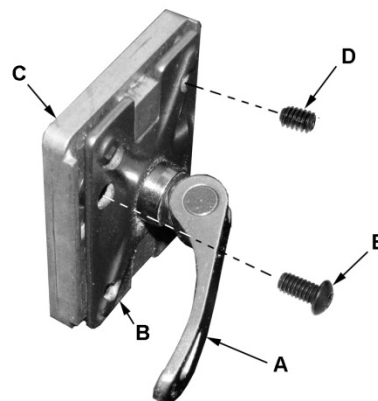

Figure 25
4. Use a 3mm hex key to make adjustments to four set screws (D, Figure 25) accessible through openings located in the corners of the clamp plate (B, Figure 25).
5. Adjust any number of setscrews required to bring riving knife in alignment with saw blade. Then reinsert riving knife, secure by tightening lever (A) and check the alignment per step 2.
Refer to Figure 25.
2. Use a 5mm hex key to loosen two socket head button screws (E, Figure 25).
**Note:** These screws are accessible through openings on the clamp plate (B) located diagonally on either side of the lever (A). They secure the bracket (C) to the riving knife carrier plate.